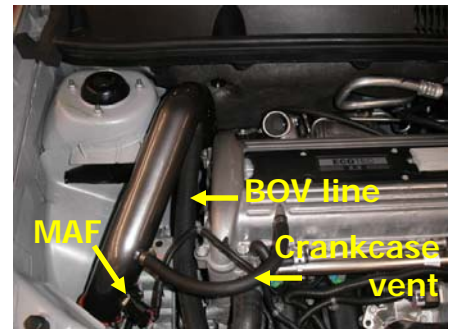

Fig. 23
23. Install the charge air plumbing – using the clamps and couplers supplied, install the charge plumbing. Connect the boost signal line and clamps between the compressor discharge pipe and the actuator (trim to length as necessary). The hump hose connects the compressor discharge pipe and the CAC inlet pipe. The 90° silicone elbows are for the CAC inlet and outlet. Installing the 90° 2.75" charge pipe for the throttle body, the short leg goes to the throttle body while the long leg connects to the CAC outlet pipe with the silicone transition. Once the couplings and clamps are in place, tighten the anti-vibration mounts (CAC inlet and outlet pipes) followed by tightening the clamps (Figure 23).